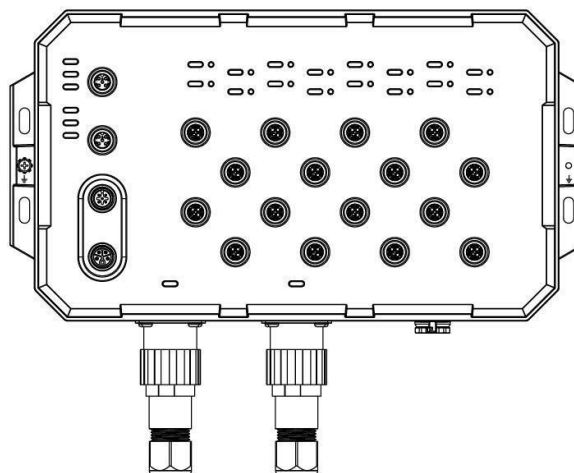

Figure 3.2: Position of the screw holes
Step 2. Based on the Figure 3.2: Physical Dimensions which is shown the positions of 4 screw holes on the left and right side of the switch to make 4 screw holes on a wall accordingly.